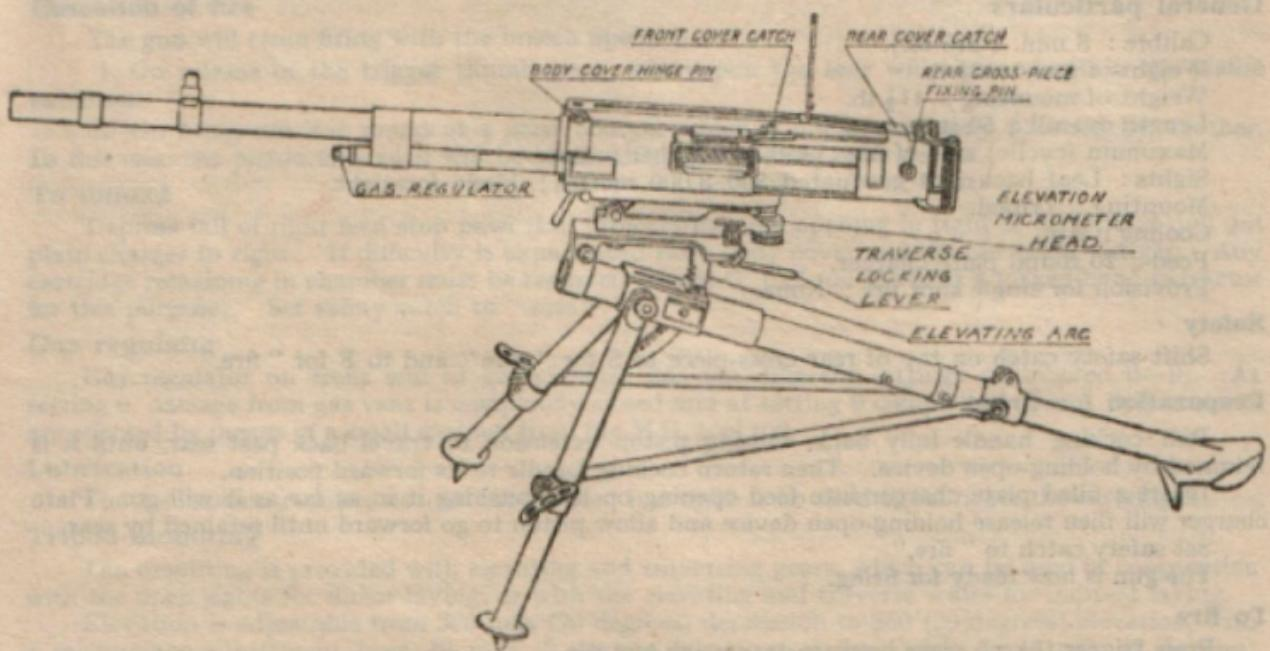

FIG. 13.—8 MM. M.M.G. MOD. 37—BREDA
21. 8 mm. Medium M.G., Mod. 37—Breda. (Fig. 13)